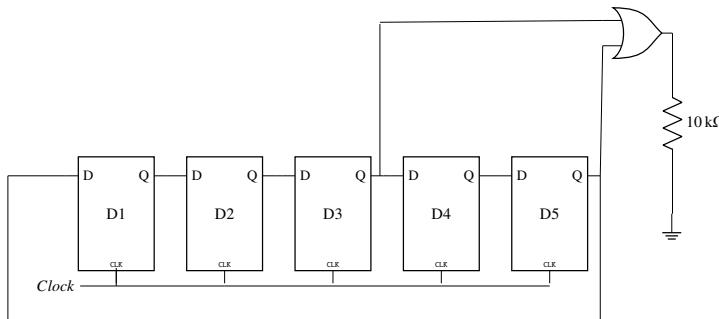

Fig. 5.26
26. Assume that all the digital gates in the circuit shown in Fig. 5.26 are ideal, the resistor  $R=10k\Omega$  and the supply voltage is 5V. The  $D$  flip-flops  $D_1, D_2, D_3, D_4$  and  $D_5$  are initialized with logic values 0, 1, 0, 1, and 0, respectively. The clock has a 30% duty cycle.